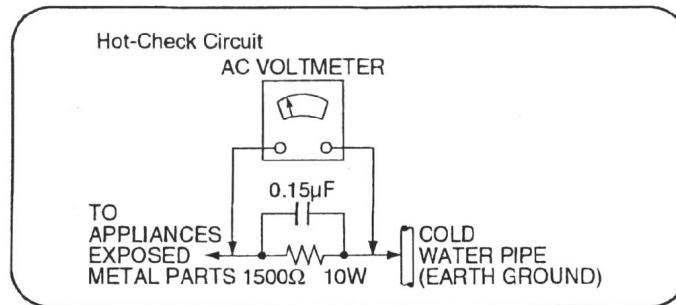

Fig. 1
2. Connect a  $1.5k\Omega$ , 10 watts resistor, in parallel with a  $0.15\mu F$  capacitors, between each exposed metallic part on the set and a good earth ground such as a water pipe, as shown in Figure 1.